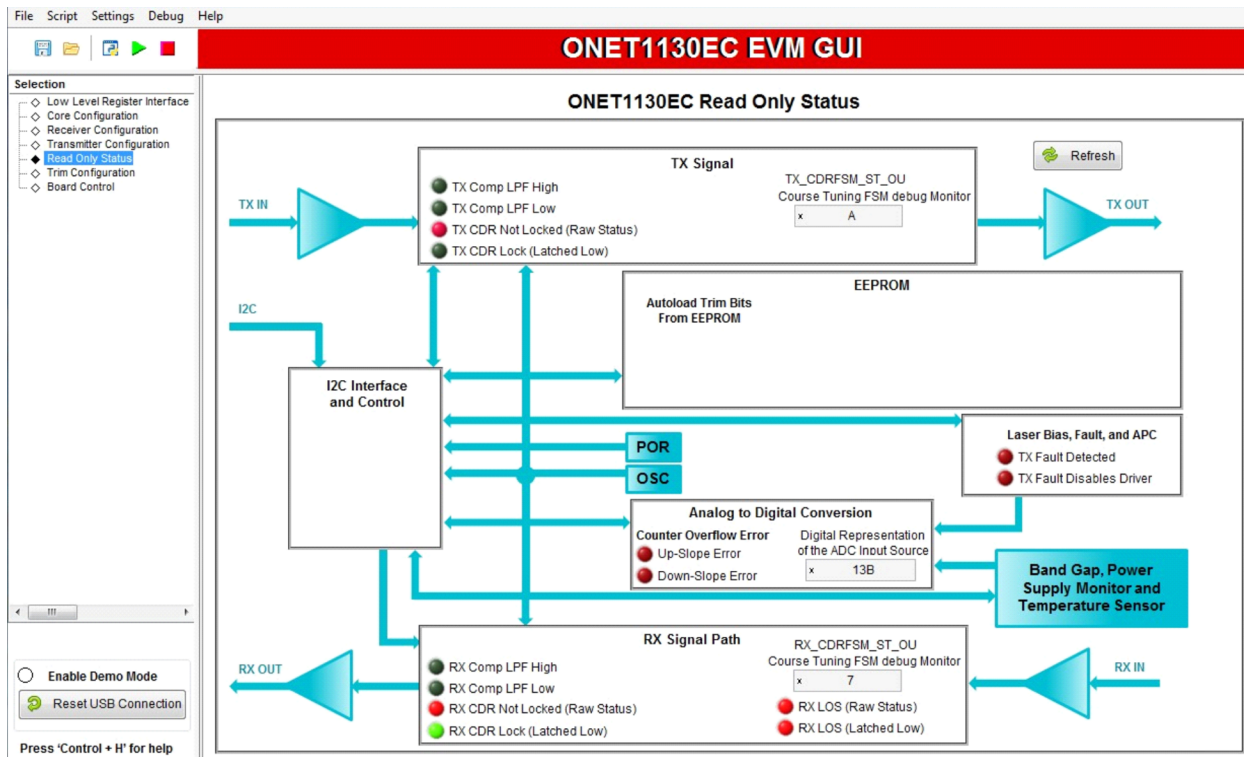

Figure 11. Read Only Status Page
17. To read the value from the ADC, go to the *Read Only Status* page as shown in Figure 11.